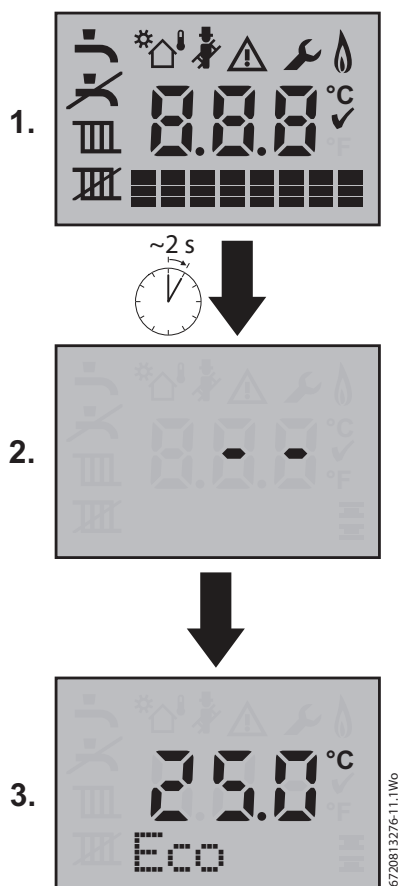

Fig. 55 Boiler start up screen
- ▶ Turn on the mains power supply, initially the “Boiler start up screens” will be displayed (refer to figure 55).